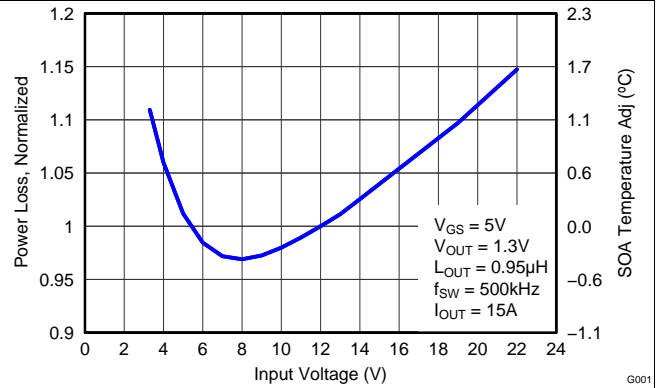

Figure 6. Normalized Power Loss vs Input Voltage
- Normalized Power Loss for input voltage  $\approx 1.06$  (Figure 6)
- SOA adjustment for input voltage  $\approx 0.7^{\circ}\text{C}$  (Figure 6)